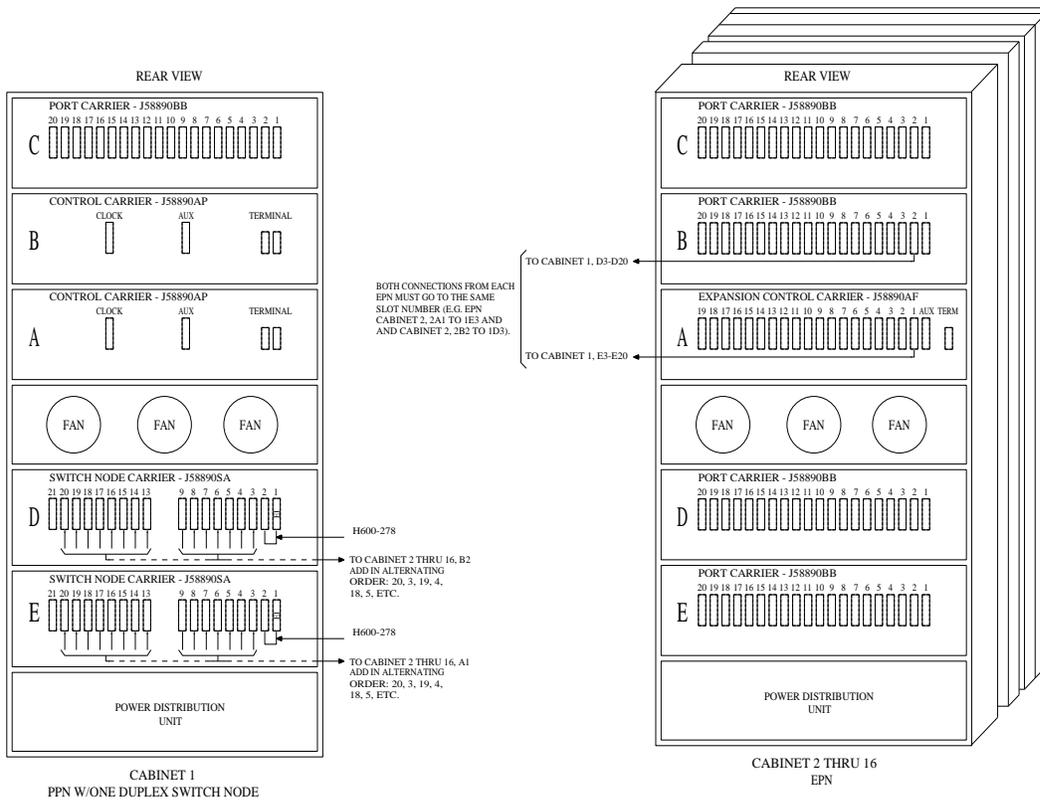

Figure 4-25. Critical-Reliability Fiber-Optic Connections through Center Stage Switch
1. Behind the PPN cabinet (See Figure 4-25):
2. Behind switch node carrier E of PPN cabinet 1 (See Figure 4-25):
4. Behind switch node carrier D of PPN cabinet 1 (See Figure 4-25):